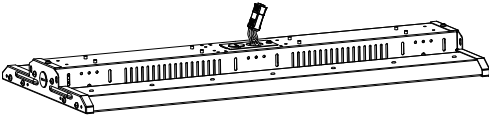
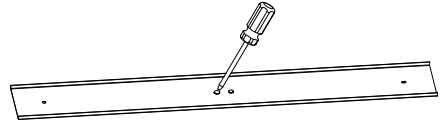

Figure12
Figure13
- Step 1: Knock off the knockout hole on the back of the fixture, take out the wires from the knockout hole (Figure. 12), open the front cover of the fixture, and knock out the two knockout holes on the cover (figure. 13)